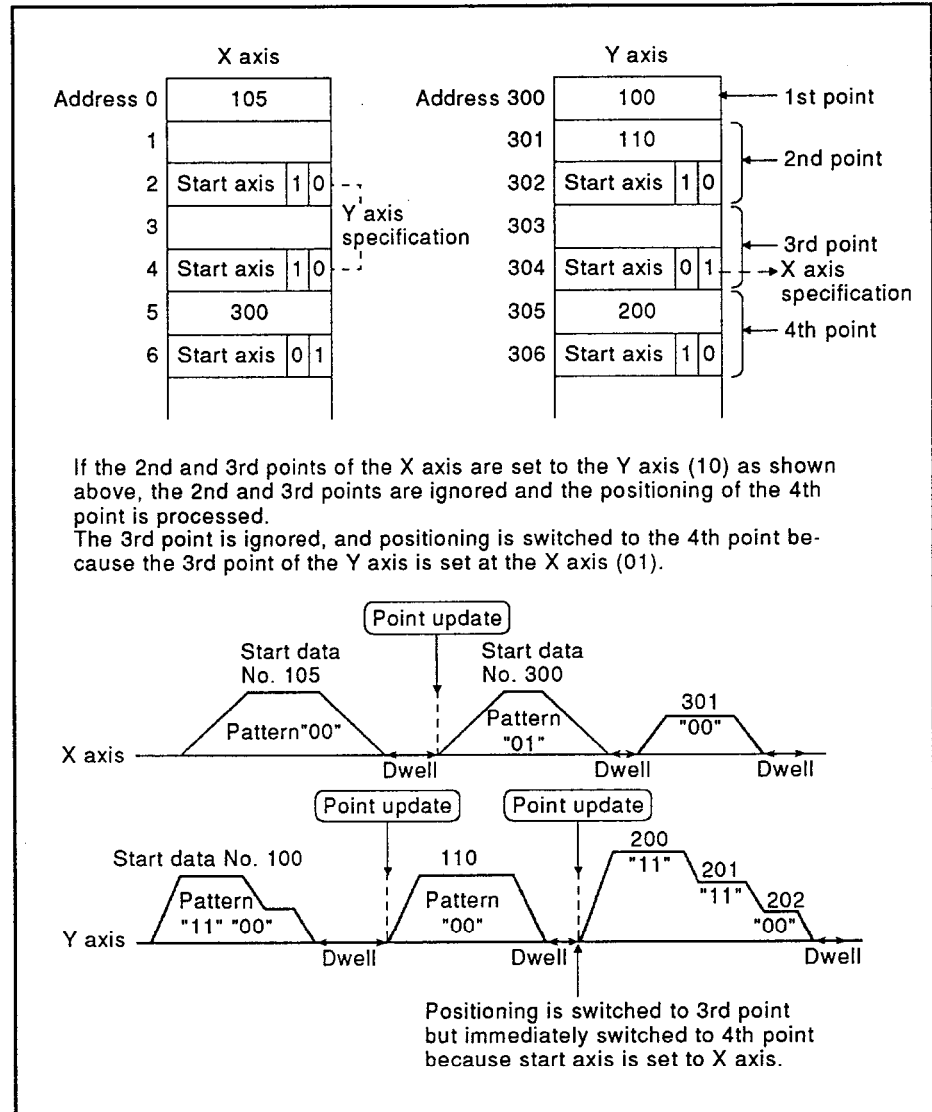

Fig. 3.37 Start Data Example 2
- 2) If the start axis in the X-axis start data number area is set at the Y axis (10), the point data is ignored (positioning is not executed) and the next point is processed. (Refer to Fig. 3.37.)